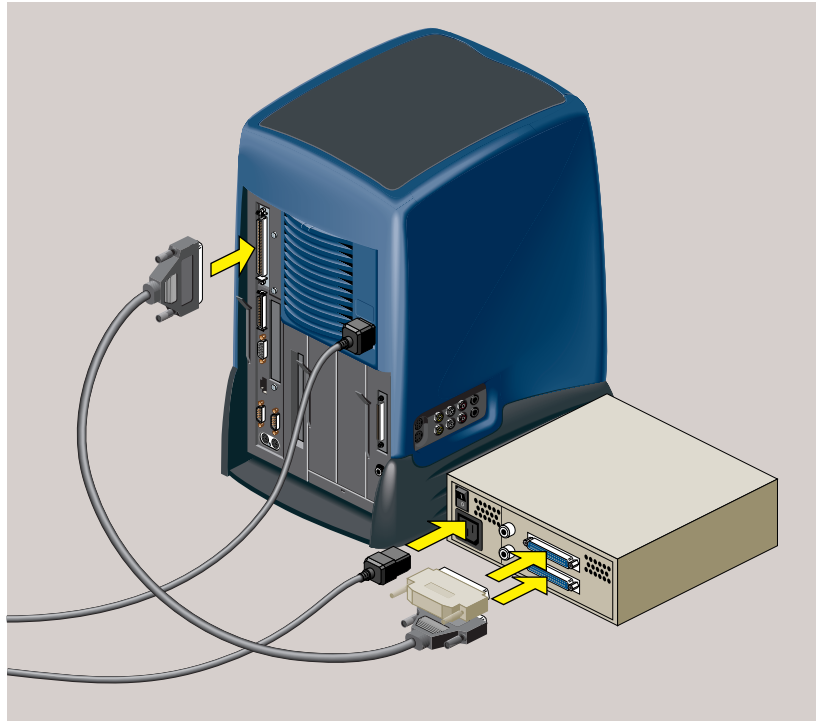

Figure 3-19 Connecting One External Device to the Workstation
3. Connect the SCSI cable to the SCSI port on the rear of the workstation and to the SCSI connector on the back of the device. If there are thumbscrews on either side of the connectors, tighten them (Figure 3-19).